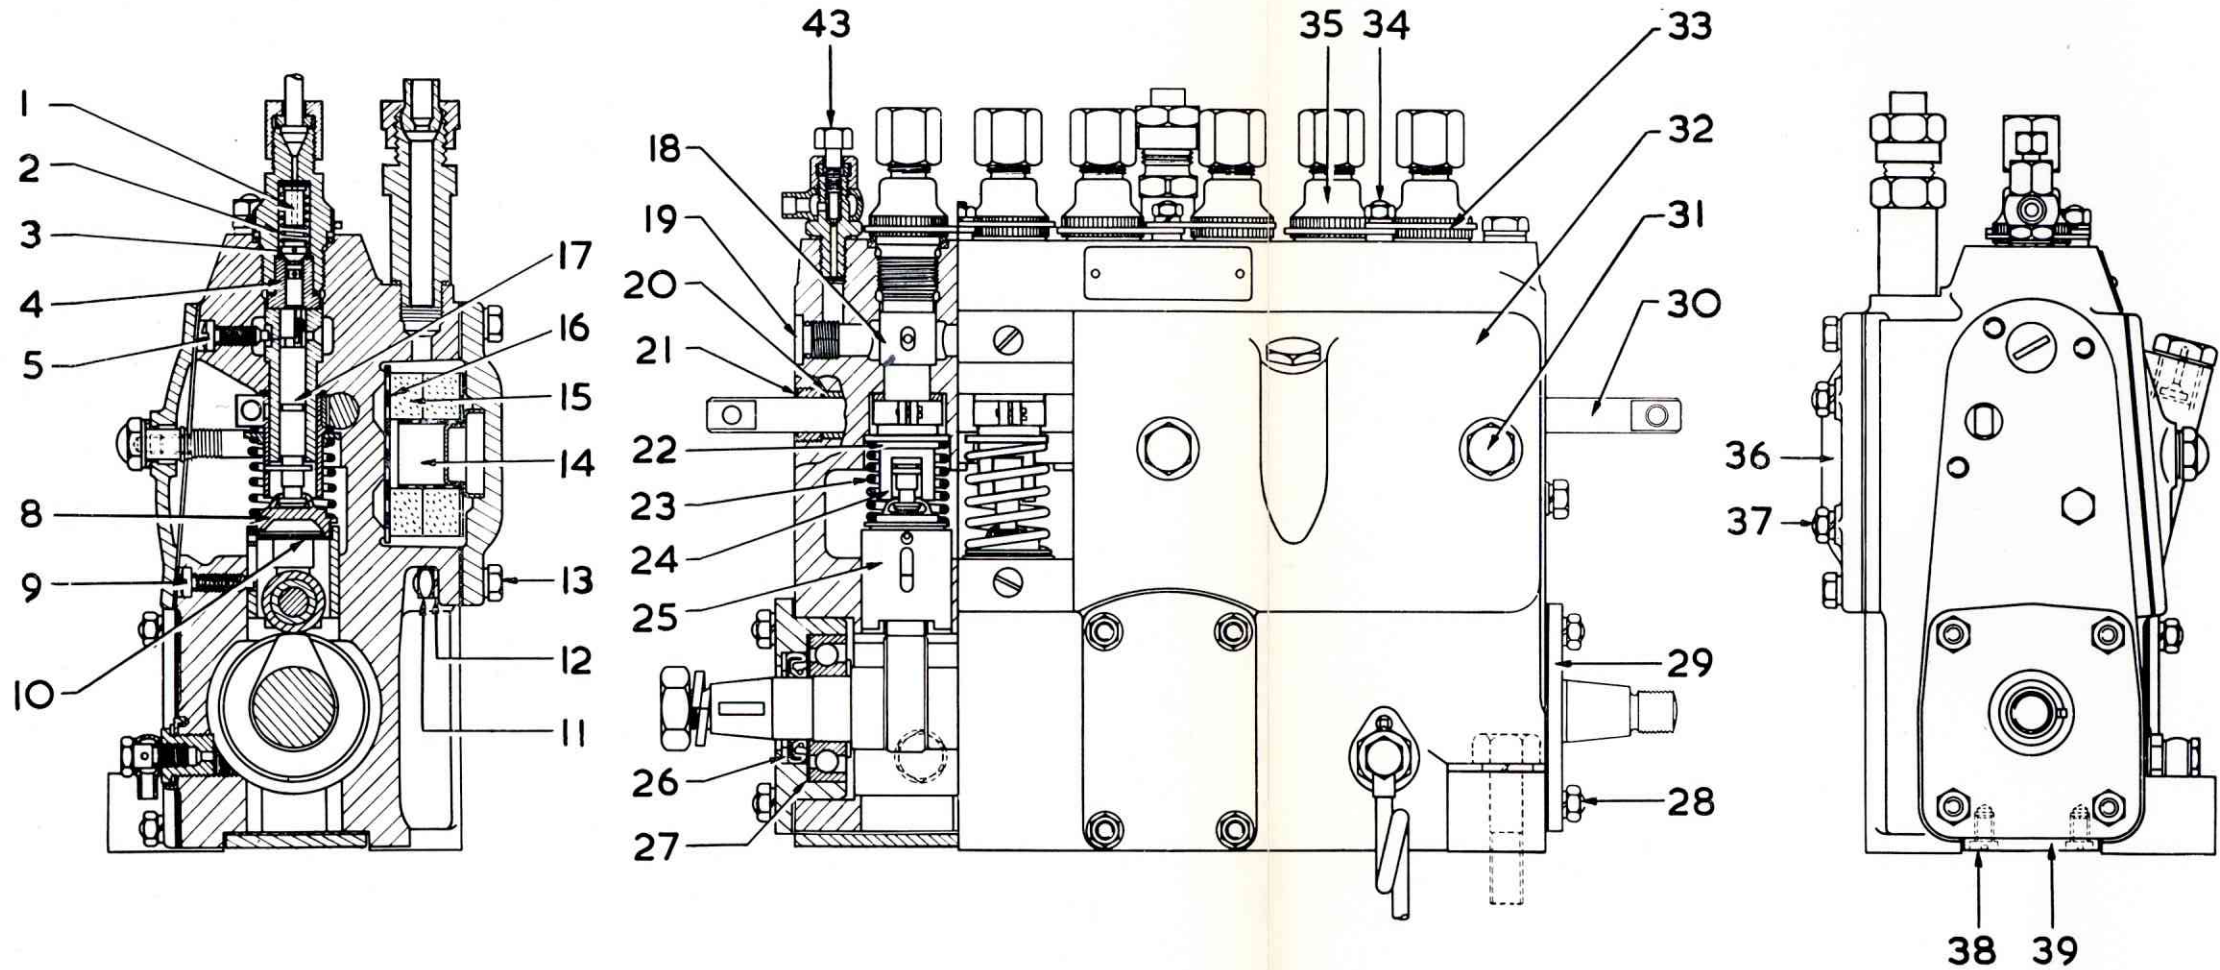

FIG. 83. SECTIONED VIEWS OF THE C.A.V. TYPE NN FUEL INJECTION PUMP
Each pumping element comprises of a barrel (F) and plunger (G), see Fig. 83, and are of highly ground and hardened steel, finished to a high degree of accuracy to permit operation at high speeds and pressures. Thus, each pair must be regarded as inseparable and not interchangeable.
3. Remove the inspection cover-plate (32), Fig. 83, by unscrewing nuts (31).
6. Remove the four nuts (28) and remove one bearing end plate (29) by tapping the opposite end of the camshaft, keeping the end plate square and avoiding damage to joint face and gasket. The camshaft can now be drawn from the open end of the cambox, note the position of the notch on the end of the camshaft before withdrawing. This marks the end to end position of the camshaft to give the correct firing order. Camshaft notch position is indicated on the symbol plate.
8. To remove the bearing outer race from the end plate use the appropriate extractor tool. Behind the outer race (27) is a shim plate, Fig. 83, then the oil seal (26) which is a push-fit in its location, and should not be removed unless it is intended to renew, as removal may cause damage.
2. Vent all air from the pump, including the built-in filter by means of the air vent cock (43), Fig. 83.